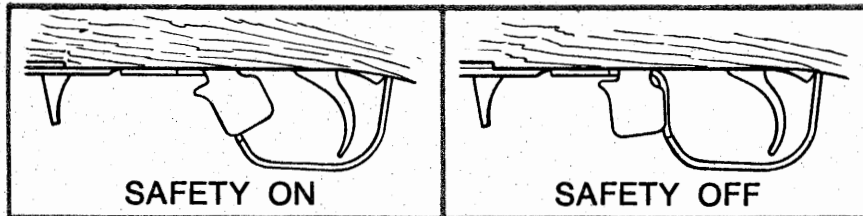

Figure 4. Safety Mechanism
a. **SAFETY MECHANISM**—The manual safety mechanism is located forward of the trigger as illustrated in Figure 4. The safety can be moved to its “ON” position only when the hammer is cocked. When the safety is “ON”, it blocks both the hammer and sear. Although the safety mechanism of the AC-556 and AC-556K selective fire rifles is correctly designed and fitted, the user should never depend on it, *or any other mechanical device* to justify careless handling or pointing the rifle in an unsafe direction.
4. When you are ready to fire the rifle, move the safety to the "OFF" position (forward) (See Figure 4).
6. To unload the rifle, place the safety in its "ON" position (see Figure 4), remove the magazine and pull the slide handle all the way to the rear, extracting and ejecting the cartridge in the chamber.
5. When you are ready to fire the rifle, move the safety to the "OFF" position (forward) (see Figure 4).
8. Place the Safety in its "ON" position (See Figure 4.)